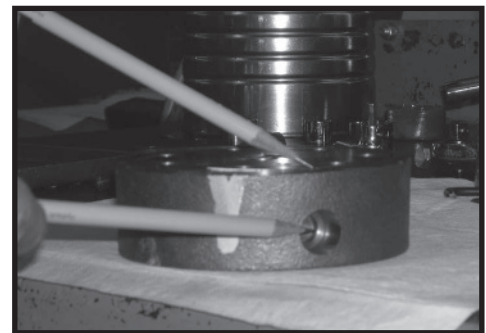

Figure 9
**NOTE: The insert and if included the orifice plug in the end cover (2) must not be removed as they are serviced as an integral part of the end cover.**
6. Thoroughly wash end cover (2) in proper solvent and blow dry. Be sure the end cover valve apertures, including the internal orifice plug, are free of contamination. Inspect end cover for cracks and the bolt head recesses for good bolt head sealing surfaces. Replace end cover as necessary. SEE FIGURE 9.